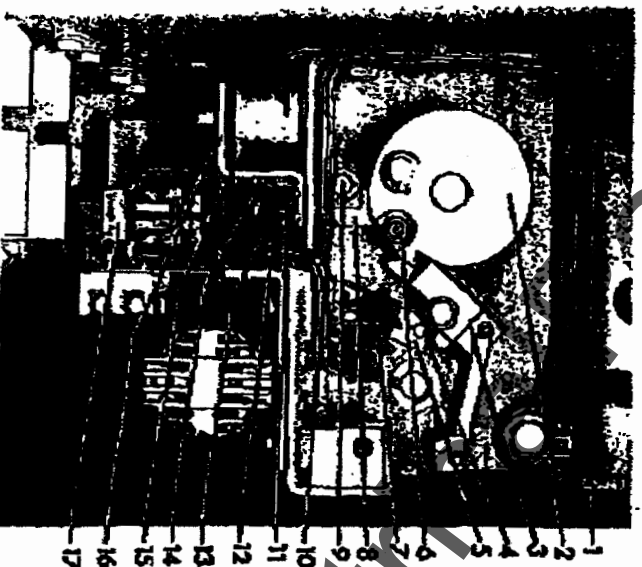

Fig. 6 (8034467) Control Mechanism
During the time the springs are being compressed a relay (17) Figure 6, is energized to hold the closing circuit open. The relay remains energized until the springs are fully charged and the control switch contacts are re-set.
Refer to Figure 6. The wipe between the release latch (8) and roller (6) should be $3/16"$ to $1/4"$. If re-setting is required, loosen, set, and retighten adjustment nut and screw (10).